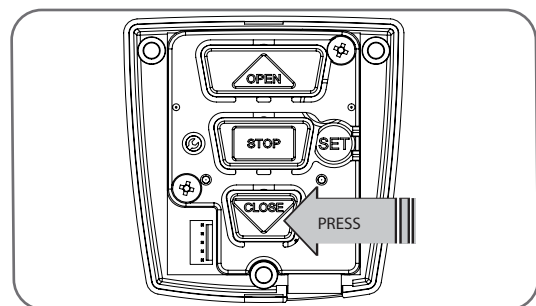

Fig 9.1
- b. Press and hold the CLOSE button (**Fig. 9.1**) - the shutter should start closing.